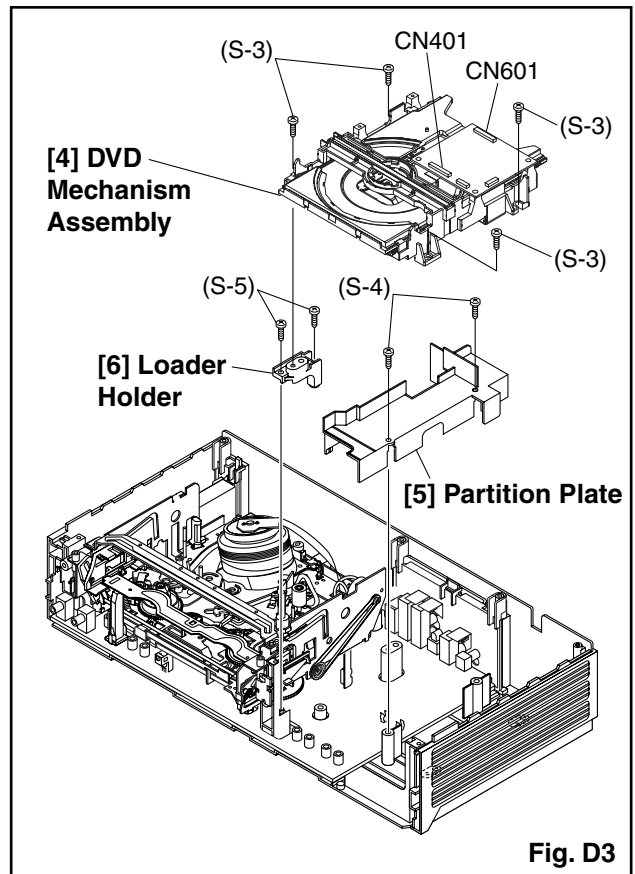

Fig. D3
2. Remove four Screws (S-3) in Fig. D3. Do not disconnect connectors.